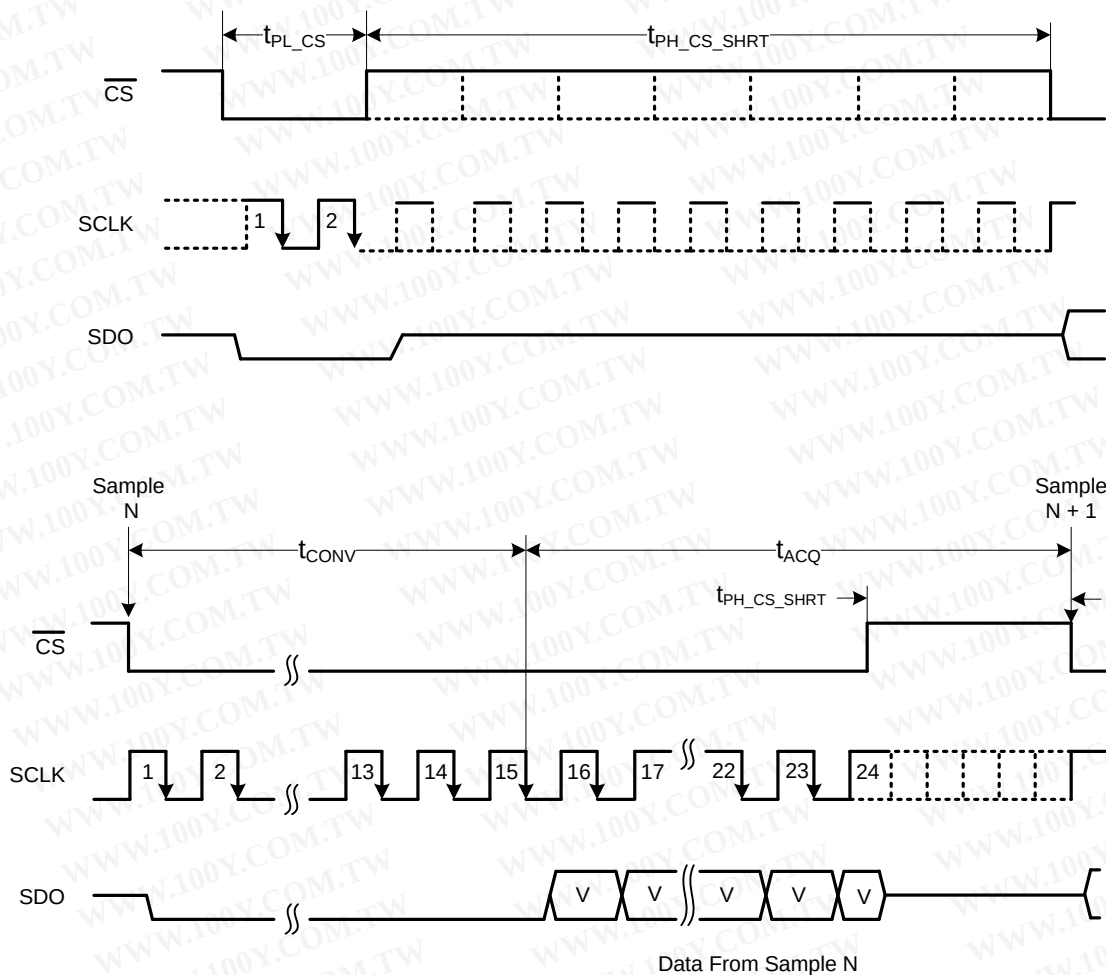

Figure 99. Frame Abort, Reconversion, or Short-Cycling Feature
As discussed in Figure 99, the minimum number of SCLK falling edges (N) that must be provided between the beginning and end of the frame depends on the serial interface mode. The SCLK falling edges (N) program the device and retrieve the conversion result. If $\overline{\text{CS}}$ is brought high before the expected number of SCLK falling edges are provided, the current frame is aborted and the device starts sampling the new analog input signal.